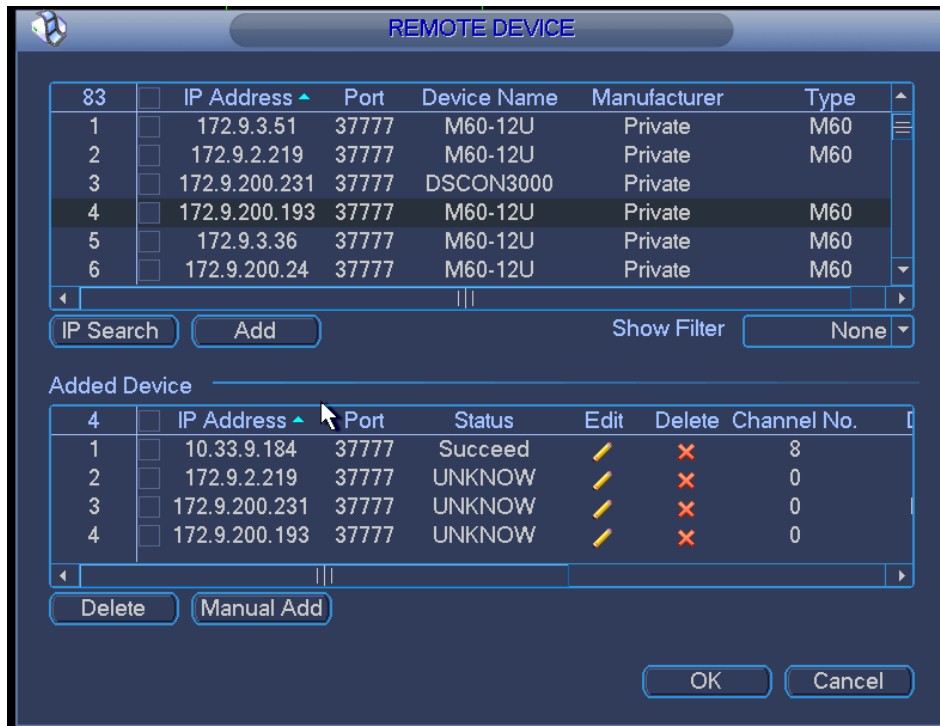

Figure 4-11
You can add network camera here. See Figure 4-11.
- 1) In Figure 4-11, Click IP search button, you can view all network devices in current IP segment. You can view device IP address, port, device name, manufacturer and type.
- 1) In Figure 4-11, Click Manual add button.